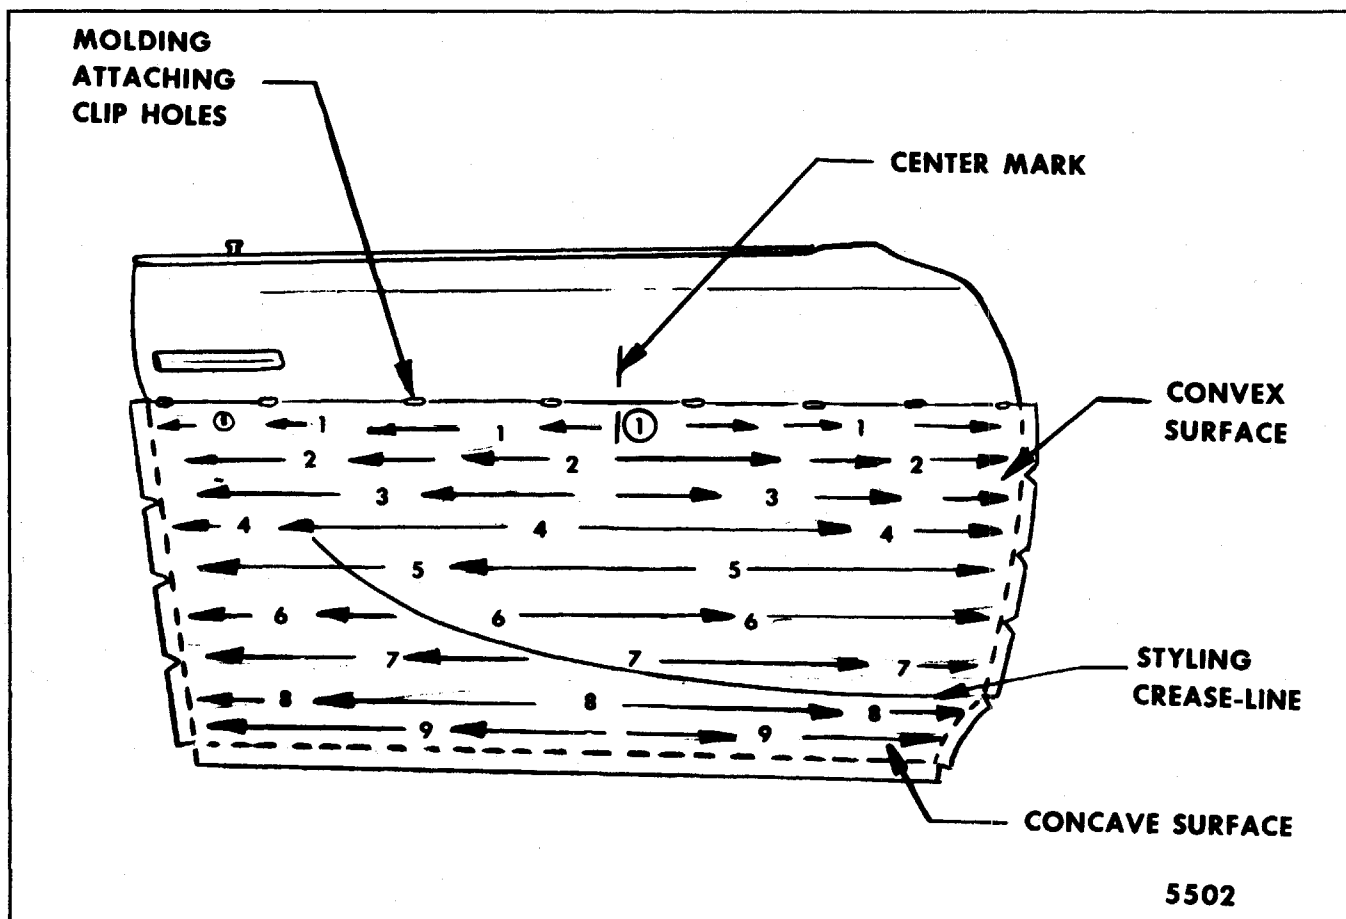

Fig. 1-10-Transfer Installation Sequence (Right Front Door Shown)
A proper squeegee sequence is of utmost importance. Start at top center of transfer. Progress to right and left from center to establish alignment across top. Then squeegee downward from this position in small increments all the way across transfer as described in Figure 1-10 and in this procedure.
7. Position transfer to repair panel, centering transfer for proper vertical and lateral alignment. When "planking" grain is used, be certain "plank" lines align with lines on adjacent panel(s). Center-mark transfer and panel accordingly (Fig 1-10).
Repeat this operation working toward each end of panel. Continue bonding of transfer with firm, overlapping strokes. Example of squeegee progression is shown in Figure 1-10.
14. Work progressively downward in small increments completely across transfer as shown in Figure 1-10.